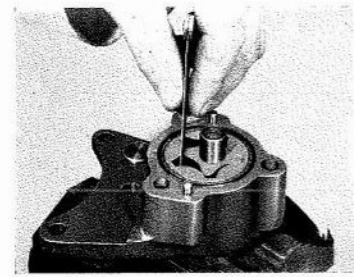

Fig. P.6.
- and the minimum diameter of the outer or driven rotor at all points. The chamfered edge of the outer rotor enters the pump body first. If the clearance exceeds 0.006 in., renew the pump. See Fig. P.6.